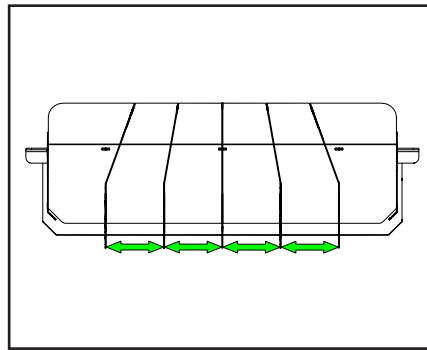

Figure 2
2. Figure 2 - Measure distance between Lower Divider fins to make sure they are all spaced equally. Adjust bottom of fins as necessary.